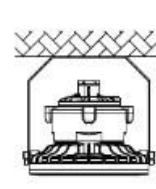

Figure 5
5. Attach a suitable water proof conduit fitting and conduit per local standard. Make sure there is a strong connection and tight seal. Fixture can adjust 90 degrees to the left or right from vertical by adjusting the screw on the bracket (Figure 5 & Figure 6).